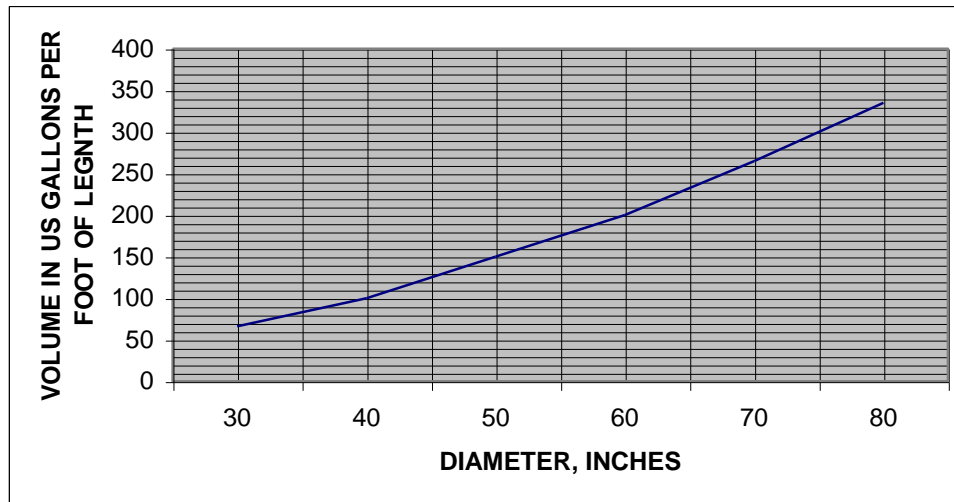

Figure 1
1. From Figure 1 determine the volume of water (V_1), which could be withdrawn from a tank initially 50% full of water at P_h to result in a reduction of pressure to P_1 . These calculations are based on the assumption that the vessel temperature remains constant.
5. For example, if $P_h = 100$ PSI and $P_1 = 80$ PSI it is determined from Figure 1 that $V_1 = 12.5\%$ of the total tank volume. That is, if the tank were 50% full when the air pressure was 100 PSI, withdrawal of a quantity of water equal to 12.5% of the total tank volume (V_T) would reduce the air pressure to 80 PSI.
- a. From Figures 1 and 2 determine the volume of water which can be withdrawn from the tank to cause the tank pressure to fall from P_h to P_1 (see A1a above).